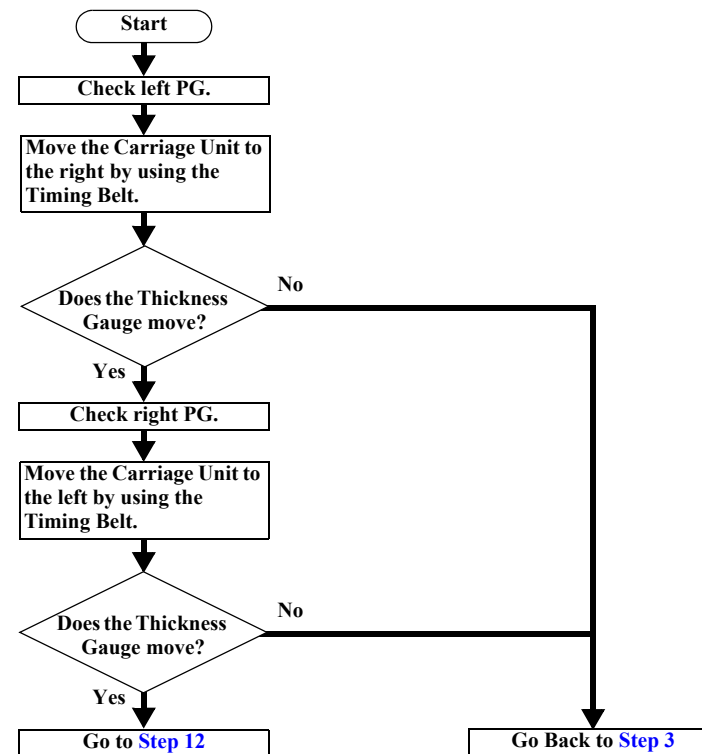

Figure 3-13. PG Checking (2)
11. Check PGs on both the left and right according to the flowchart in the Figure 3-13.
13. After screwing, check PGs on both the left and right again according to the flowchart in the Figure 3-13.